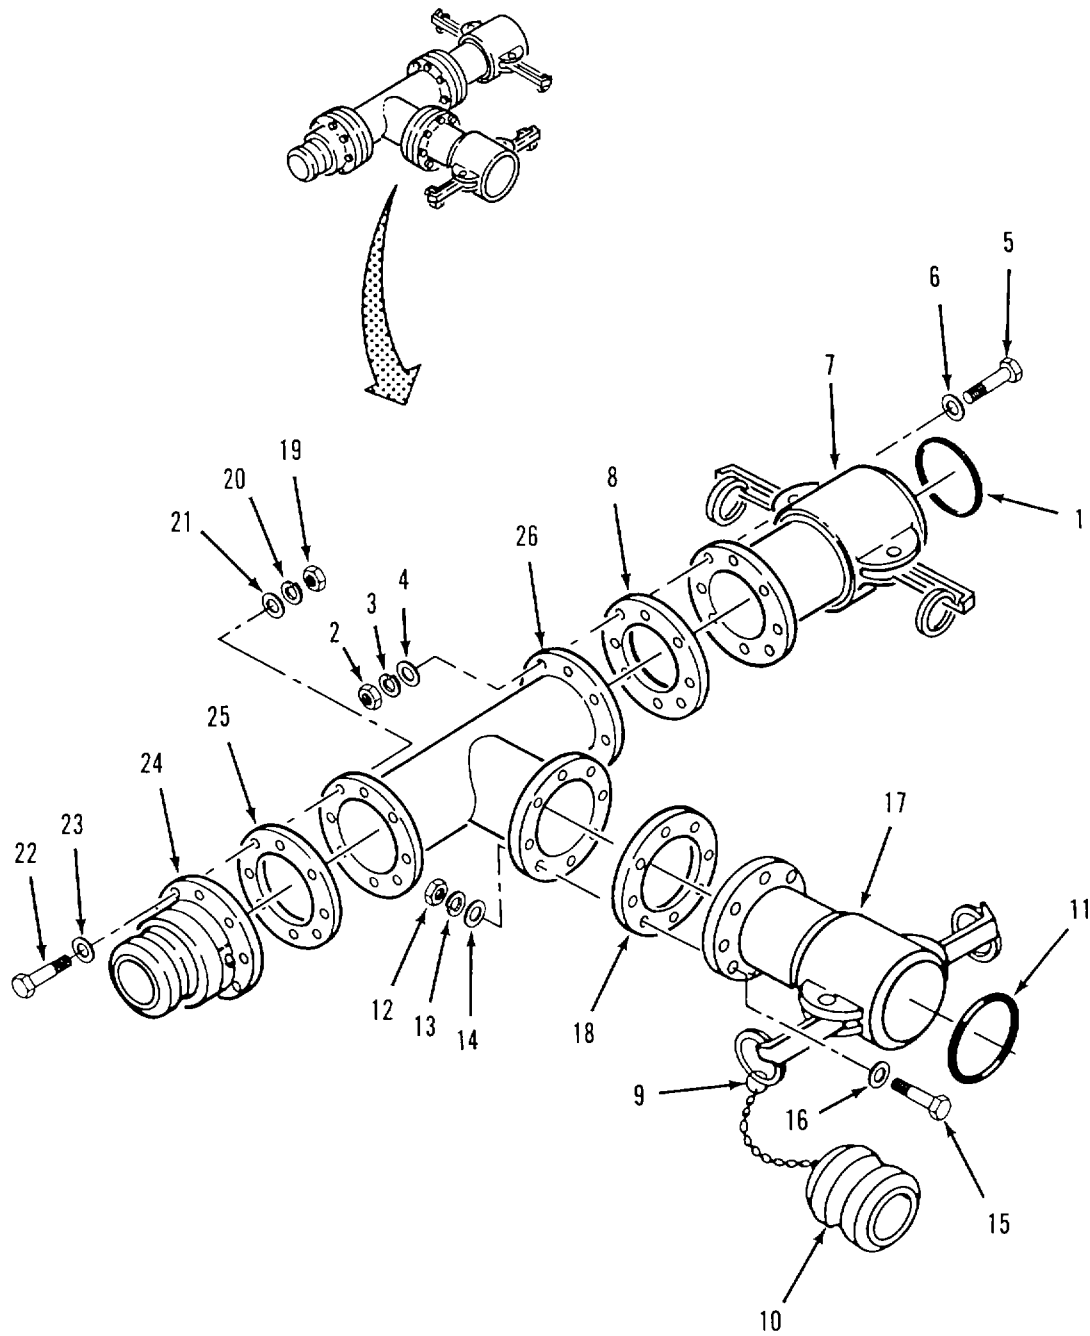

Figure 4-23. Tee Assembly (9112-Y3) Disassembly
- a. Disassembly. Refer to figure 4-23.
- (1) Remove gasket (1) from female coupling (7).
- (2) Remove eight nuts (2), lockwashers (3), flat washers (4) and screws (5) and flat washers (6).
- (3) Separate female coupling (7) and gasket (8) from tee (26).
- (4) Disconnect ring (9) from female coupling (17) and remove plug (10).
- (5) Remove gasket (11) from female coupling (17).
- (6) Remove eight nuts (12), lockwashers (13), flat washers (14), screws (15) and flat washers (16).
- (7) Separate female coupling (17) and gasket (18) from tee (26).
- (8) Remove eight nuts (19), lockwashers (20), flat washers (21), screws (22) and flat washers (23).
- (9) Separate male coupling (24) and gasket (25) from tee (26).